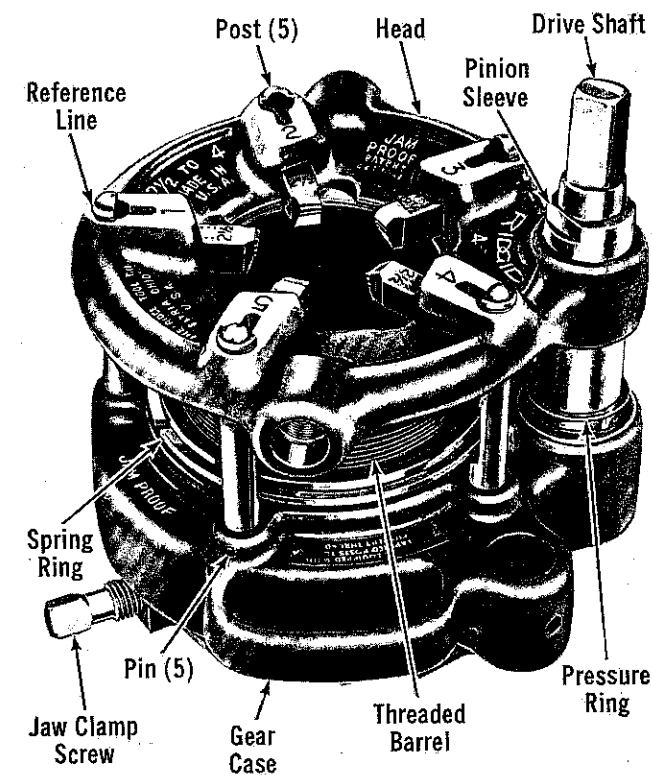

Figure 18. No. 4PJ Geared Threader with Drive Shaft Up.
2. **4PJ only** - Loosen Workholder Clamp Screw (Fig. 18) and remove Threader.
Thread Size Adjustment Procedure (Fig. 18)
Changing Dies (Fig. 18)